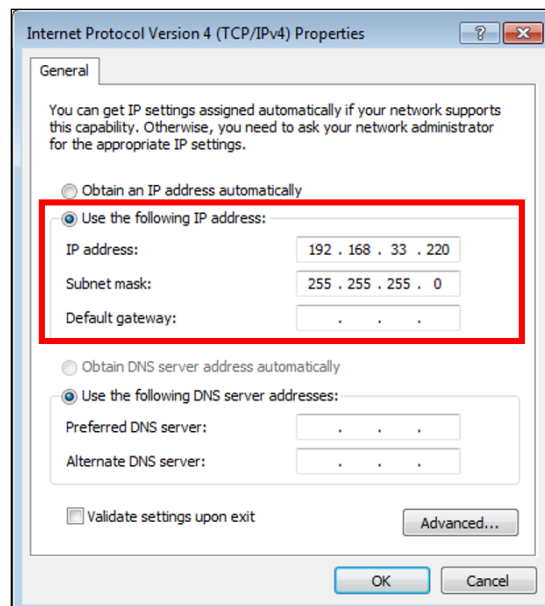

Figure PH018-17 – Change IP Address and Subnet Mask
- g. Change the IP address to 192.168.33.220 and the subnet mask to 255.255.255.0. The window should look exactly like Figure PH018-17.